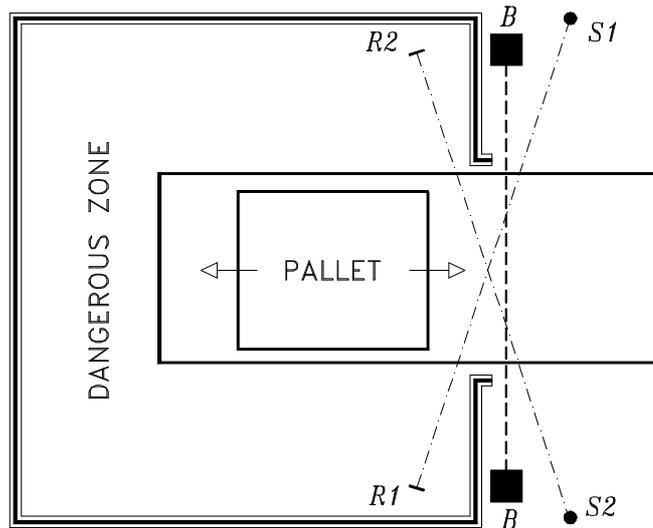

Figure 12
- ☞ muting sensor 3 cannot be used in bi-directional systems in which the pallet enters and leaves the danger area through a single controlled access (fig. 12).